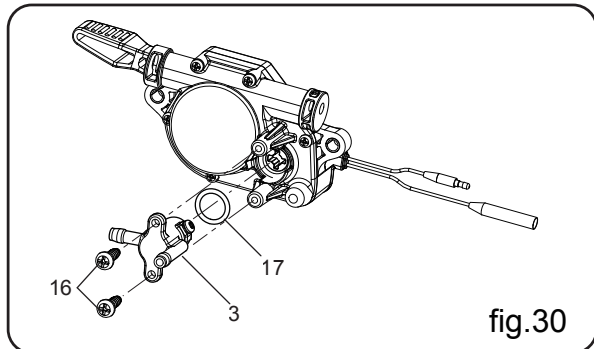

fig.30
B. Remove the fuel cock (3) by unscrewing 2 pcs tapping screw (16). (fig.30)